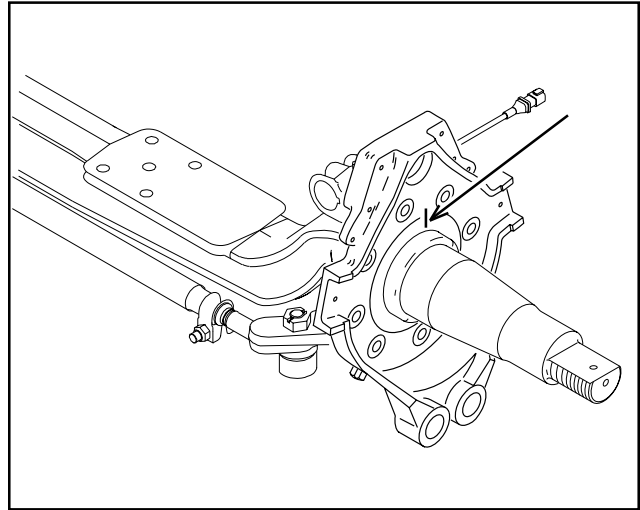

Figure 4
1. Before removing camshaft check to see if cam bushings need replacement. **See Figure 4 on Page 12.**
See Figure 4.